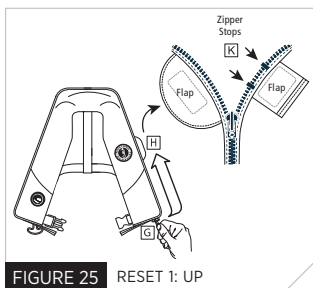

FIGURE 25 RESET 1: UP
5. Mustang Survival uses advanced two-step zippers that can be reset. Reset 1: Pull the slider (G) to the zipper stop (K) and under the Velcro™ tab (H) (Fig. 25). Ensure both zipper stops (K) are in place. Close by pulling the slider (G) in the opposite direction to the end of the zipper (Fig. 26). Ensure that the inflatable cell does not get caught by the zipper when closing.